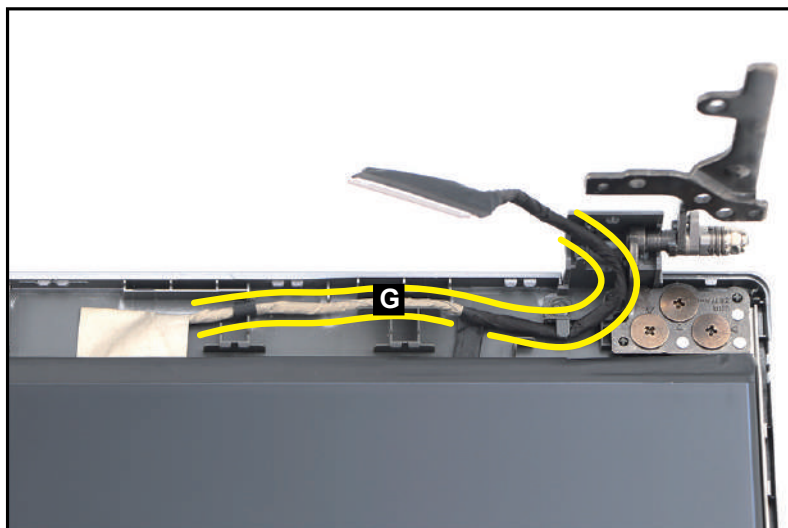

Figure 3-100. Replacing the LCD Panel
7. Remove the LCD alignment mylars (E) from the LCD cover.
8. Route the LCD cable (G) through the cable guides on the bottom side of the LCD cover and the LCD hinge as shown in Figure 3-100.